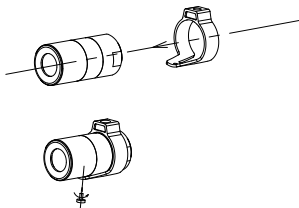

Figure 2-26 Loop the Fixed Focal Unit
4. Loop the fixed focal unit with the loop of the bracket, and tighten it with the supplied screw. As shown in Figure 2-26.